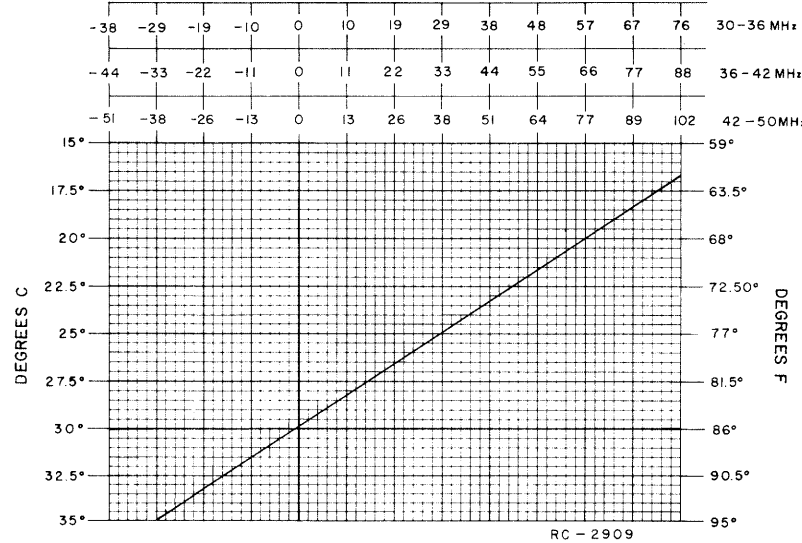

Figure 3 - Frequency Offset Chart
First, check the frequency to determine if any adjustment is required. (Refer to **frequency offset chart, Figure 3**). The frequency measurement requires equipment with an absolute accuracy that is 5 to 10 times better than the tolerance to be maintained. When adjusting the frequency, the entire radio should be as near as possible to an ambient temperature of 30°C (86°F).
To set crystal frequency using "beat frequency" method, the temperature should be at 30°C (86°F). If the temperature is not 30°C, then offset the "ON FREQUENCY" signal (at the receivers input), as a function of actual temperature, by the frequency ERROR FACTOR shown in Figure 3.
2. Maintain the radio at 30°C (±5°C, -10°C) and offset the oscillator, as a function of actual temperature, by the frequency error shown in Figure 3.